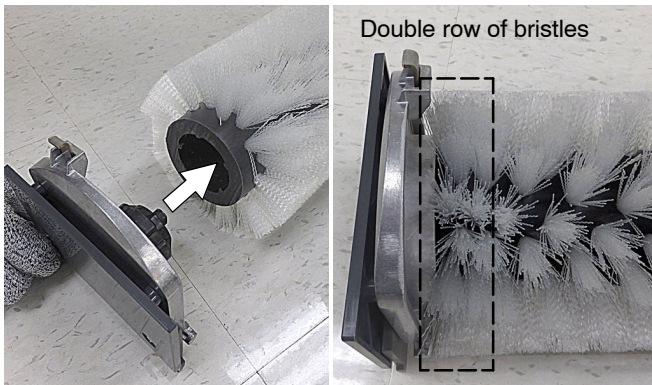

FIG. 19
3. Attach idler plate to brush end with double row of bristles (Figure 19).